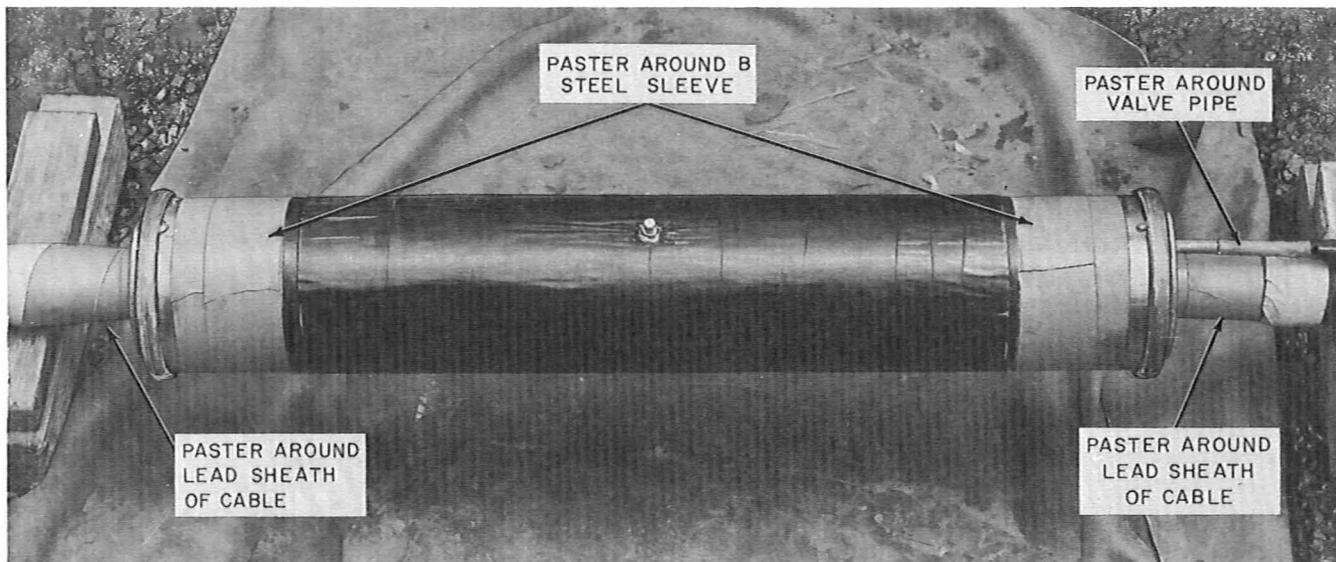

Fig. 11—Pasters Applied to Sleeve
7.02 Apply pasters to the B Steel Sleeve and lead sheath to check the flow of wiping metal. (Fig. 11) *Ensure that the pasters do not overlap the factory-applied corrosion protection.*